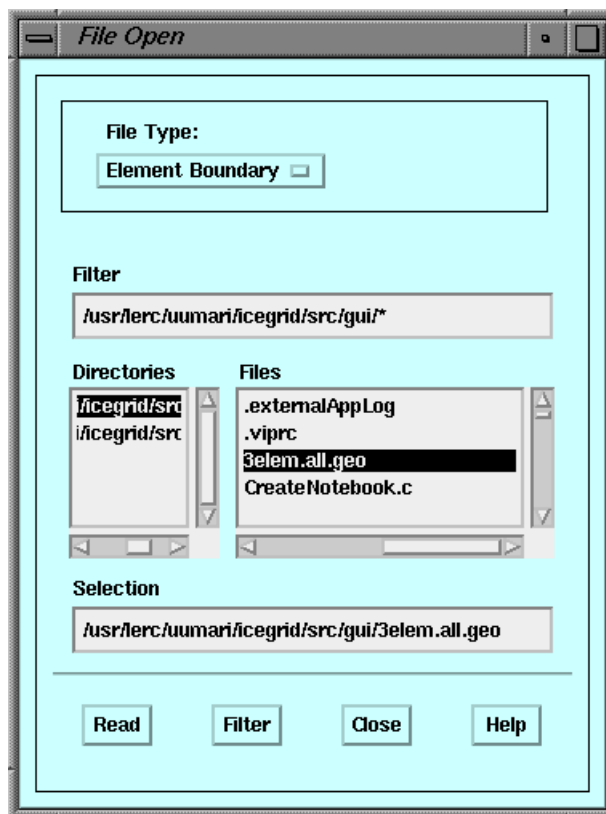

Figure 15. File Open Window
**Open** - Displays the **File Open** window (Figure 15, p. 25). This window allows the user to select and read the geometry. The hot key for this menu pick is <Ctrl>O. For more information, see the section “File Open” (p. 25).
The **File Open** window allows the user to select and read geometry (Figure 15). The user selects from the **File Type** option menu the type of data to be read in. There are three file types available: *Element Boundary*, *IRT Element* and *LEWICE Element*. An element is an object boundary. There are two different kinds of element boundaries. An open element has the first and last points at different x,y coordinates. A closed element has the first and last points at the same x,y coordinates.